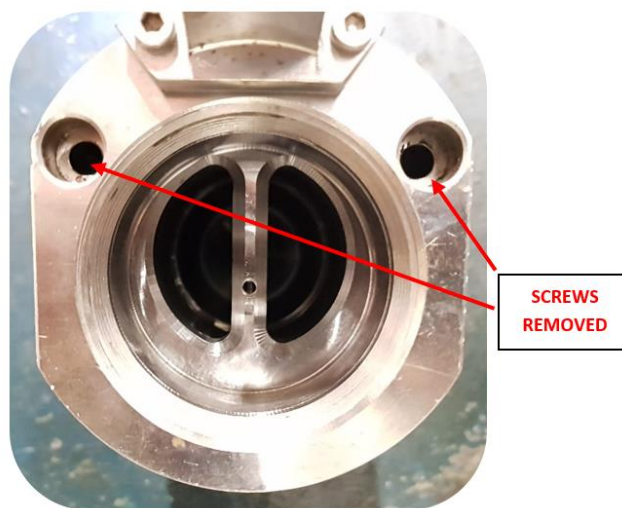

Figure 21 - Both Screws Removed from Front of Valve
8. Once the Valve (BFCV50E or BFCV50ES) is installed into the tank inlet, the unique (patent pending) feature whereby the front body of the valve can be rotated can now be used to position either Pilot Line Port in **1 of 4** possible locations (90° apart). To access this function, the 2 screws within the front of the Valve must first be removed – refer Figure 21.